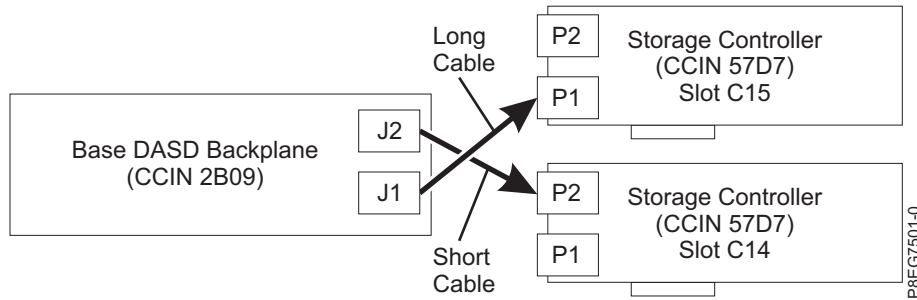

Figure 11. Reconnecting the SAS cable in a split-disk configuration
- If you have two PCIe3 x8 SAS RAID internal adapters (CCIN 57D7) (split-disk feature), the short SAS cable connects the upper disk drive backplane connector (J2) to the P2 connector on the adapter in slot P1-C14. The long SAS cable connects the lower disk drive backplane connector (J1) to the P1 connector on the adapter in slot P1-C15. See Figure 11 on page 11.